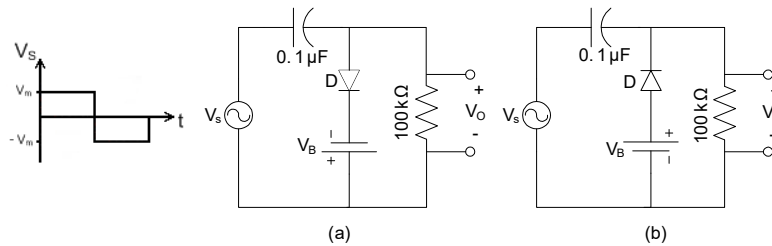

Figure 3.8: Experimental Circuit 3.
4. For the clamper circuits of figure 3.8 do the same steps as step 1 and 2 with  $V_s$  wave shapes as drawn beside each figure having  $V_m = 5$  volts.